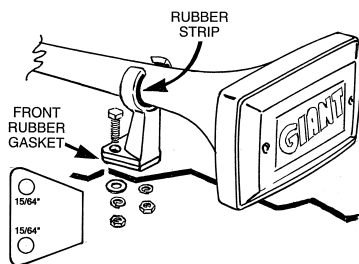

Fig. 2
2. Secure the horn to the vehicle using the hardware provided. Tighten screws evenly to prevent damage to the horn. See fig. 2. **IMPORTANT:** Be sure to use the rubber gasket to protect against water leaks.